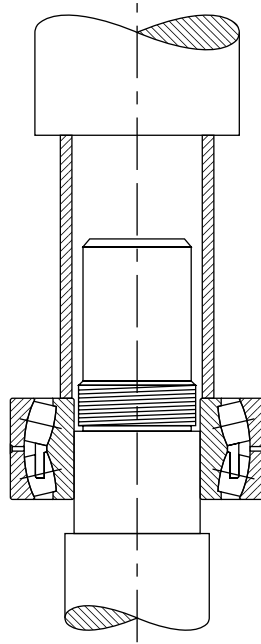

Fig. 94. Arbor press method.
- An alternate method of mounting, generally used only on smaller size bearings, is to press the bearing onto the shaft or into the housing. This can be done by using an arbor press and a mounting tube as shown in fig. 94.